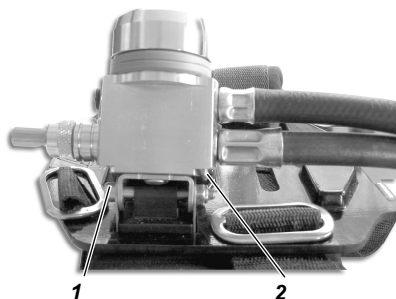

Fig. 8 Removing the pressure reducer
- (3) Remove shoulder and hip belts from the slots on the carrying plate.
- (4) Unscrew hexagon socket screw (1) of the pressure reducer bracket (see Fig. 8).
- (5) Remove the pressure reducer with hoses from the carrying plate.